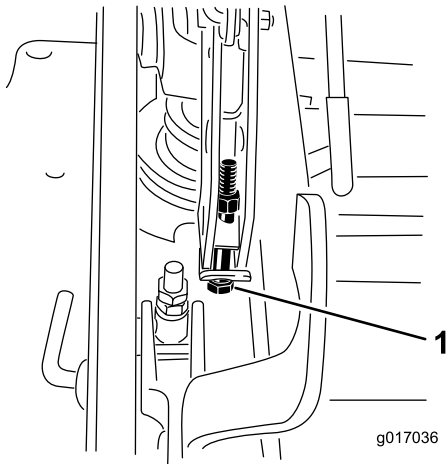

**Figure 92**
11. To adjust the single-point system, loosen the 2 bolts at the bottom of the height-of-cut plate (Figure 92).
13. Tighten the 2 bolts at the bottom of the height-of-cut plate (Figure 92).